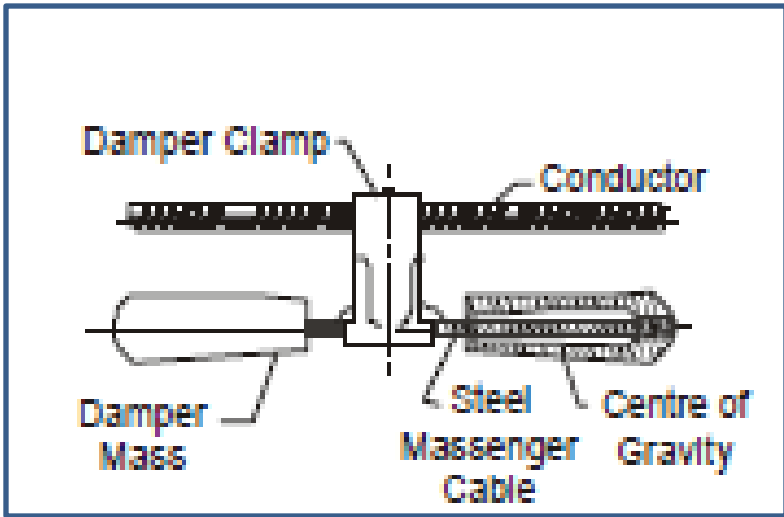

Fig 2: Stockbridge Damper
- Figure 2 shows a 765 kV Transmission line in India with quadruplex sub-conductors.